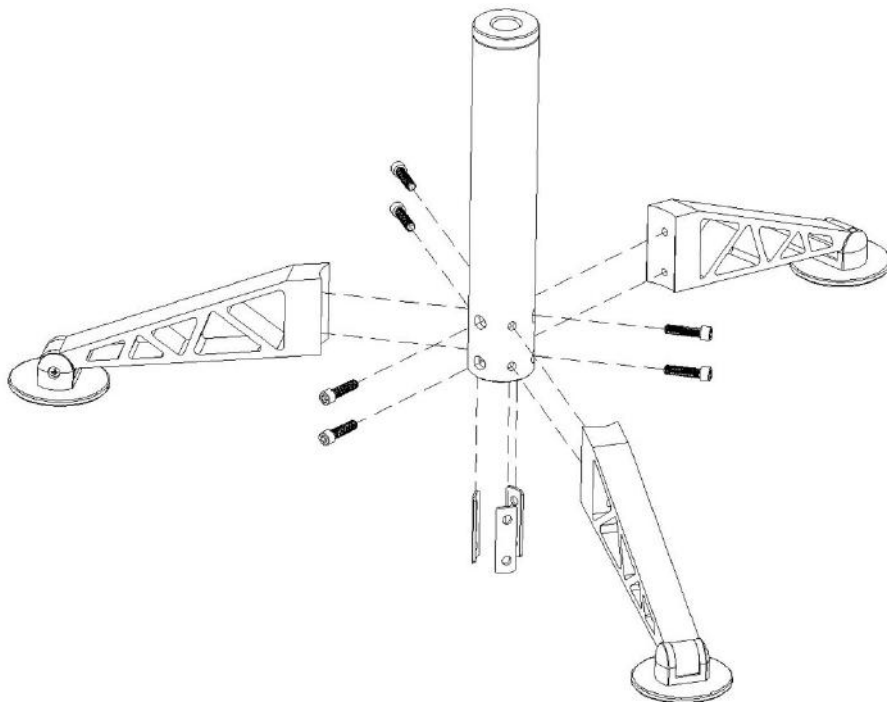

FIGURE 1
STEP 1: Using The hex wrench provided attach the Tri Legs #14 to the Seat riser # 12 Using the 6 bolts # 17. Make sure to place the dual back up washers #18 under the head of the bolts inside the seat riser tube. Note: there are two different size holes in the riser, make sure to bolt the Tri-legs to the smaller hole while inserting the wrench thru the larger holes as seen in Figure 1 below.